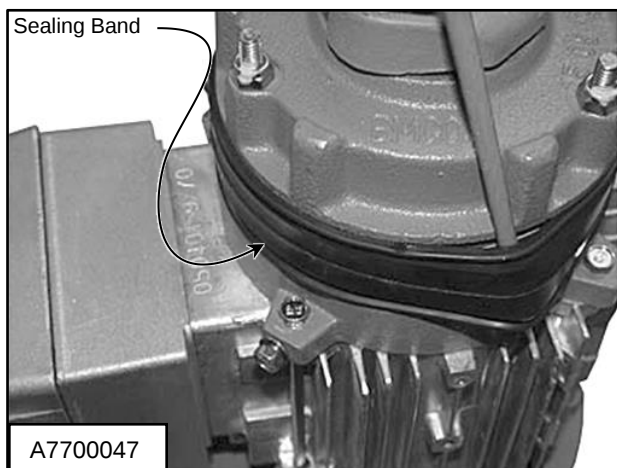

Figure 38
3. Remove sealing band. (See Figure 38)